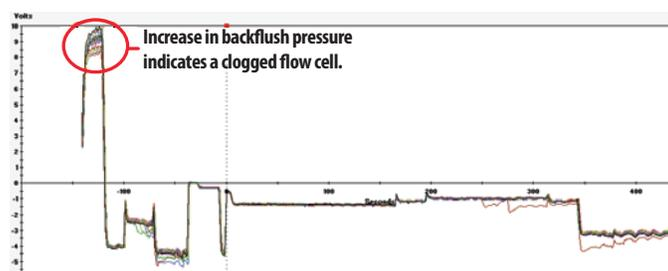

Figure 2. The steady increase in backflush pressure with each run indicates a clogged flow cell.
- Upward trends in the backflush pressure, as shown in **Figure 2**, are an important indicator that the flow cell is becoming plugged and should be changed.